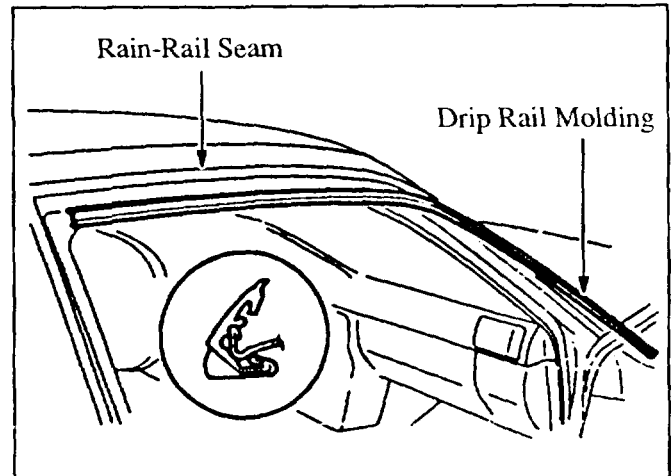

Figure 5: Drip Rail Molding
3. Remove the drip-rail molding and inspect rain-rail seams for missing sealer or pinholes. Seal any suspected sealer defects. Figure 5.